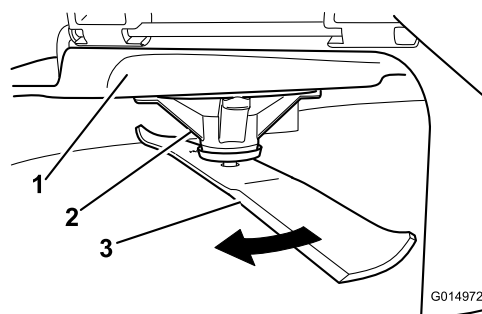

Figure 51
2. While wearing thickly padded gloves, or other adequate hand protection, slowly rotate the blade to be measure into a position that allows effective measurement of the distance between the cutting edge and the level surface the machine is on (Figure 51).